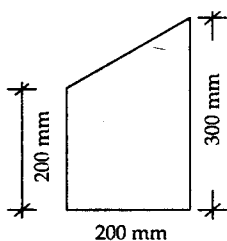

Fig. 5
- (b) Find the moment of inertia of a plate shown in the fig.5 about horizontal centroidal axis.